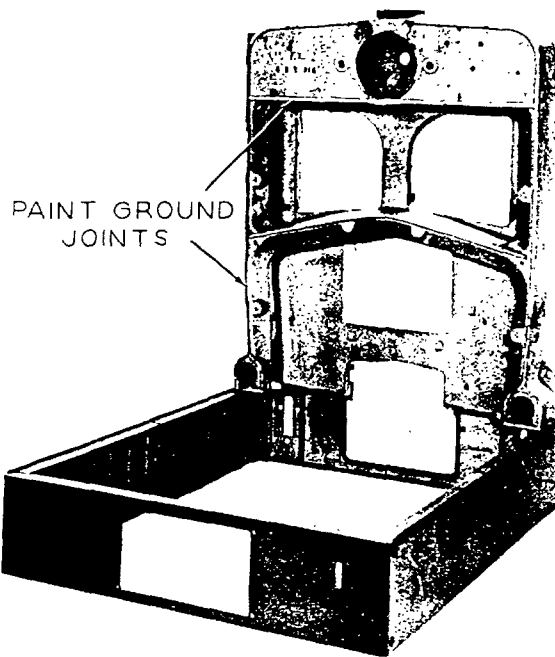

Fig. 1
Assemble the bolted side panels to the Front and Back base panels with the ribs inside. Use $\frac{1}{2}$ " x $1\frac{1}{2}$ " bolts and tighten nuts only moderately. See that all corners are square and that bolted side panels are in proper alignment before tightening nuts on all bolts, then level base in final position with regard to chimney. See Fig. 1.
3. ASSEMBLY OF SECTIONS - Center the front section on base and support with prop. Important! The two $3/8$ " tapped holes in the front section at either side of the clinker grate opening must be in line with the elongated holes in the front base panel. Clean nipples and nipple openings with Kerosene or gasoline and apply good lubricating oil. DO NOT USE PAINT OR RED LEAD. See Fig. 1.